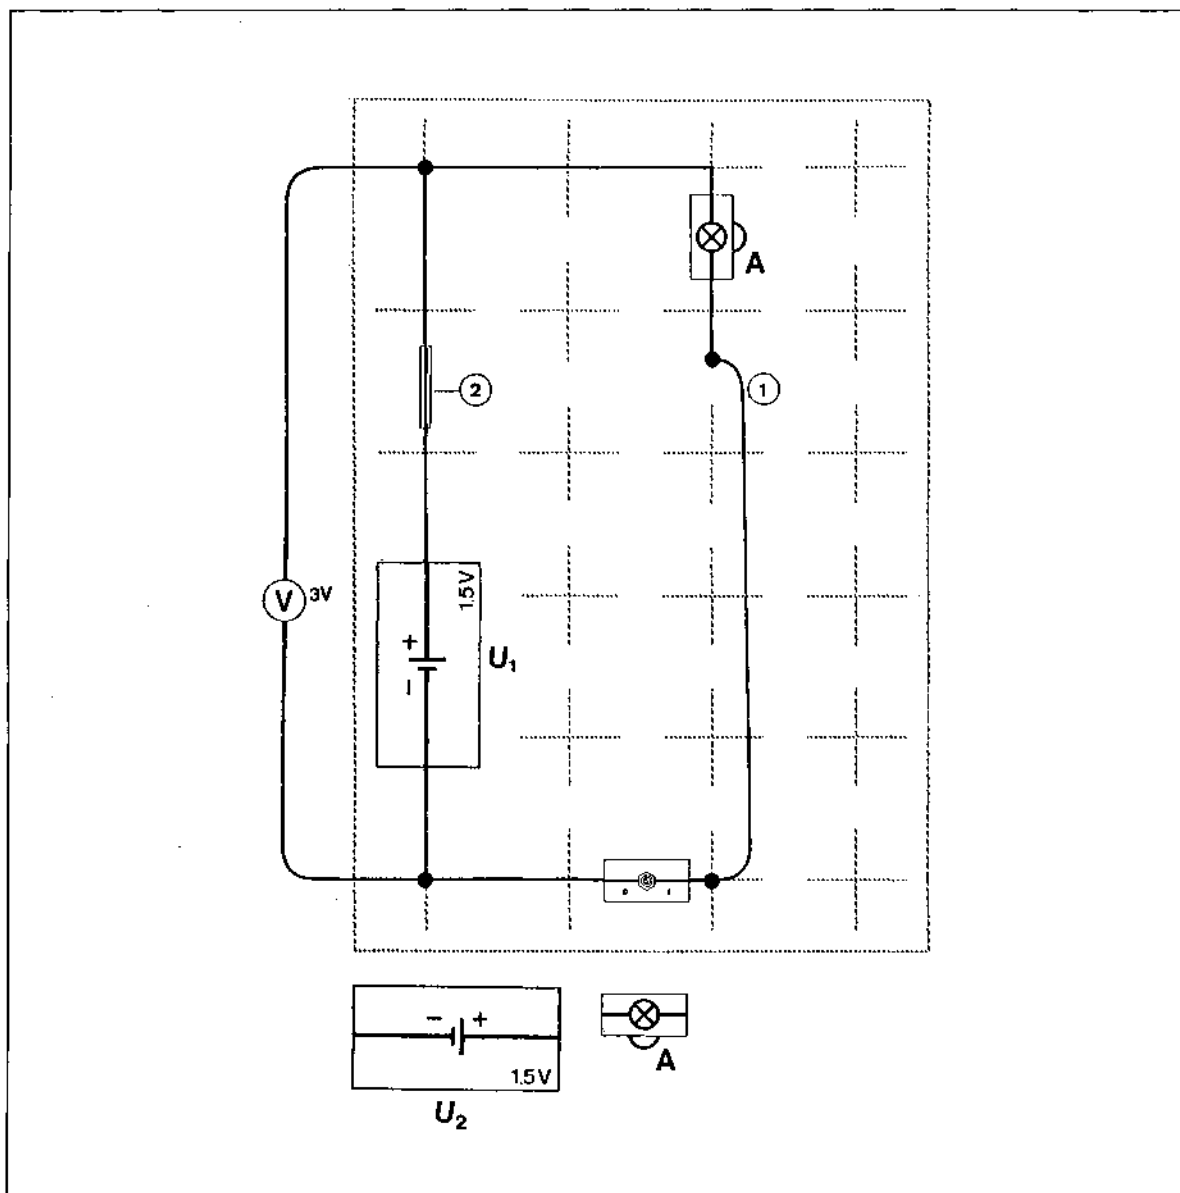

Fig. 1 Experiment setup: Connecting monocytes in series
► Fig. 1
1. Actuate the switch in the circuit shown in fig. 1 and note the brightness of the lamp.
2. Open the switch again and insert a second similar lamp into the circuit (e.g. at position (1)). Close the circuit. What do you notice?
3. Open the switch again, remove the jumper plug from position (2) and fit a second monocell into the resulting gap. Make sure its polarity is the same as for the other monocell.